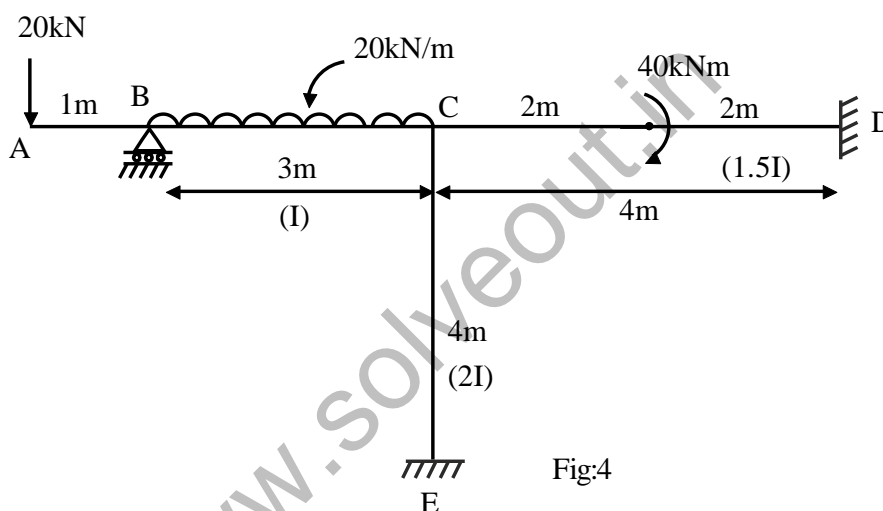

Fig:4
4. Analyse the structure loaded as shown in fig : 4 by the moment distribution method and sketch bending moment. 13